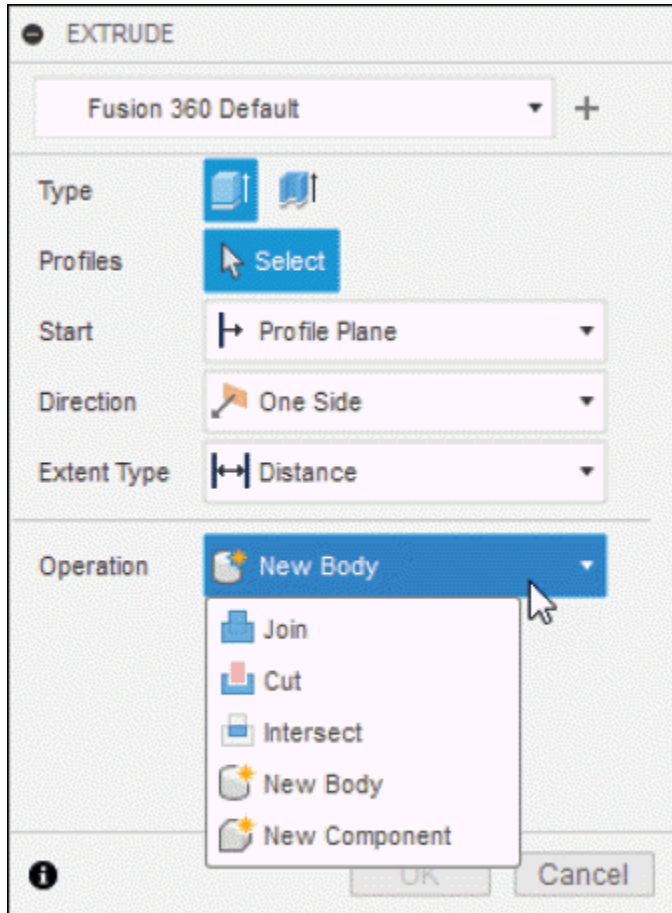

Figure-42. Operation drop down
- There are five options in **Operation** drop-down of **EXTRUDE** dialog box; refer to Figure-42. These options are discussed next.